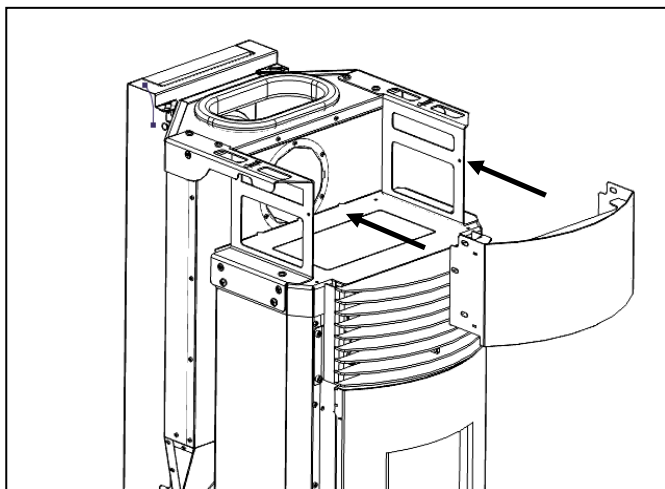

Figure 72 – Front grille assembly
b) Place the upper front as shown in Figure 72, positioning the flaps of the front part on the inner face of the structure.